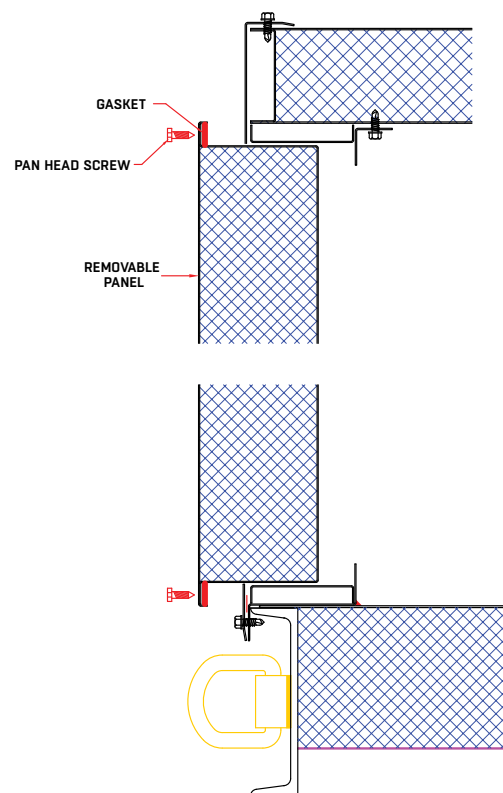

FIGURE 16. Detailed drawing of removable panel installation.
22) Removable panels are furnished for large items such as coils. Adequate service space in front of these panels should be provided in case the item or items will have to be removed at some future time (See FIGURE 16).